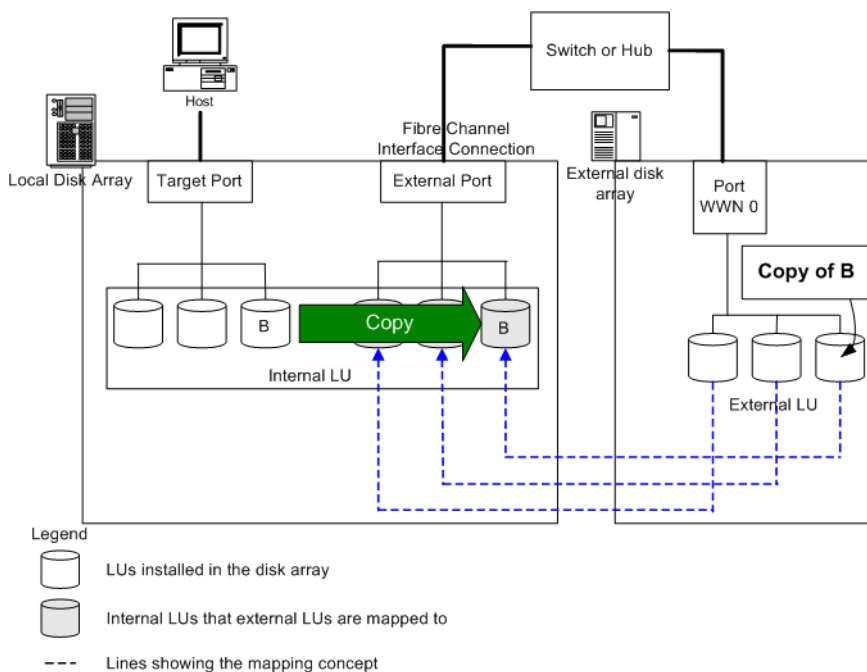

Figure 321: Copying data from a local disk array to an external LU
Figure 321 shows the concept of copying the data in an internal LU to an external LU. The LU in the local disk array (B) is copied to the mapped external LU using Flex Copy. Note that during the Flex Copy copy operation, the host cannot access the internal LU B.